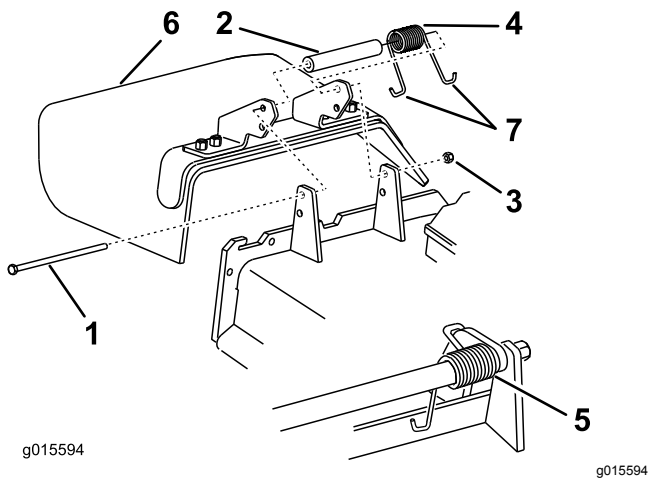

Figure 63
1. Place one end of the spring behind the deck edge and the other end on the grass deflector (Figure 63).
2. Use the bolt and nut to secure the grass deflector assembly to the mower deck (Figure 63).
3. Place the J-hook end of the spring around the grass deflector (Figure 63).